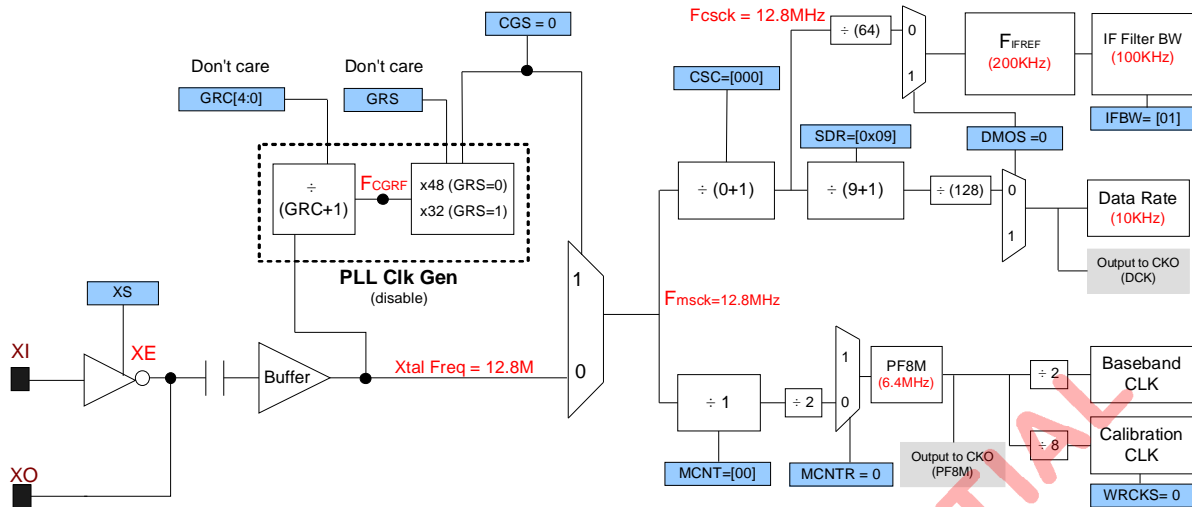

Figure 12.3 Configurations of 10Kbps when IFBW = 100KHz
5. If choosing IFBW = 100kHz, figure 12.3 illustrates the different results of CSC and F_{CSCK}.